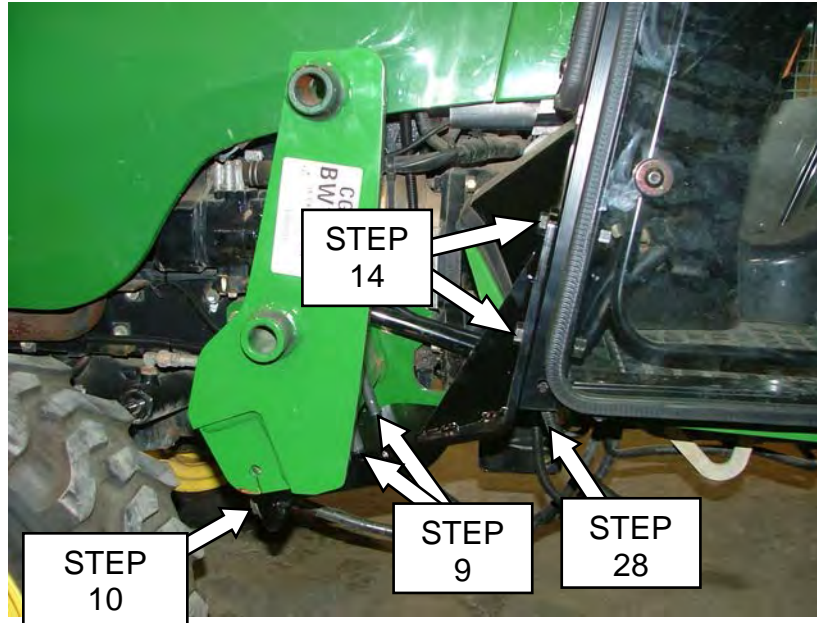

FIGURE 6
- (4) 7/16 flange nuts (F)
14. Align front mount holes with front of cab mount holes. Secure connection using (**Figure 6**);